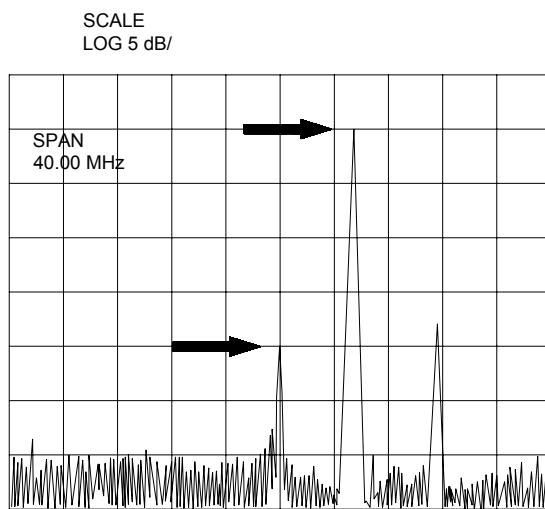

Figure 2
7.2.5 Set spectrum analyzer span to 40MHz. The sound subcarrier should not exceed -18dBc. (Typically -20 to -23dBc.) Measurement is difference between subcarrier and the highest peaked dBc. See figure 2 for an example of the Analyzer screen.